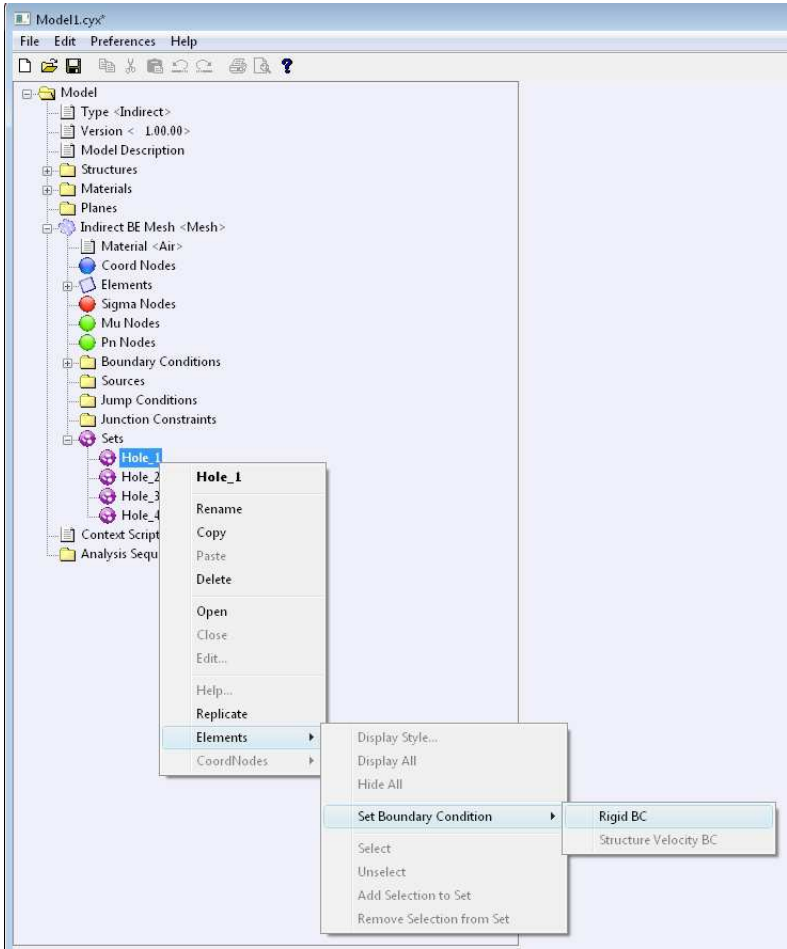

Figure 9.43: Apply boundary conditions through sets.
- Right-click on **Holes_1** and select: **Elements** → **Set Boundary Condition** → **Rigid BC** as shown in Figure 9.43.